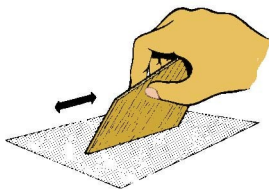

Figure 6
- **Step 9** Sand the excess glue from the fins. Do not over-sand. Gently round over the outer edges of all fins, except for the root edges. Square up the root edges so that they will be flat to the body tube when attached. See Fig. 6.